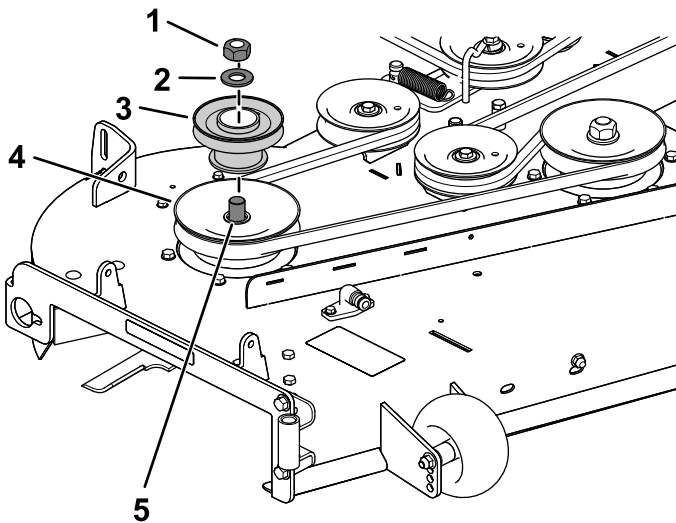

Figure 10
2. Install the pulley assembly to the right mower deck pulley with the previously removed nut and washer (Figure 10).